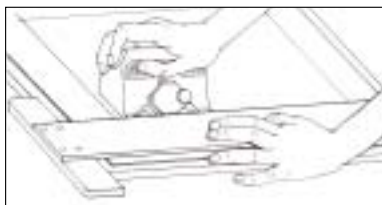

Fig. 4
6. Push cutter away holding straight edge firmly (Fig. 4)